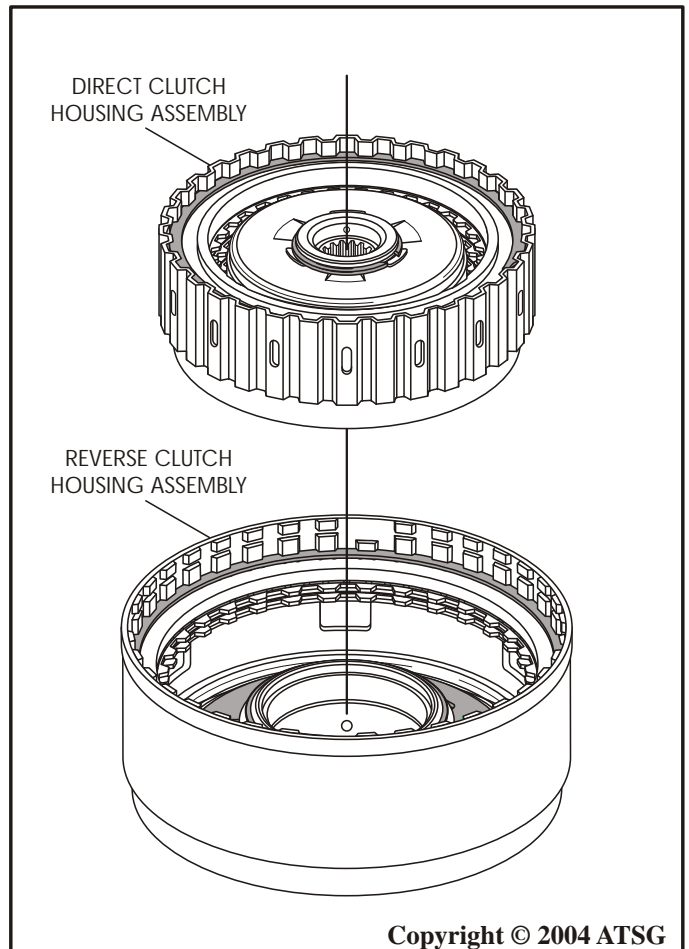

Figure 75
6. Remove the direct clutch housing out of the reverse clutch housing by lifting straight up, as shown in Figure 75.